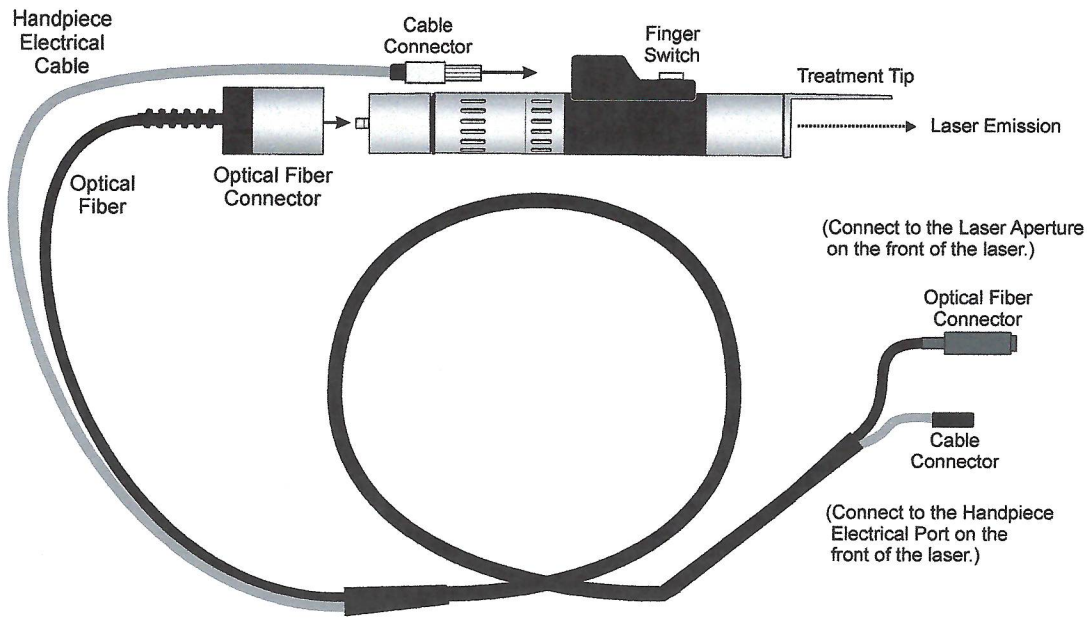

Figure 3—Handpiece
The Smartepil II laser comes with a set of interchangeable and reusable handpieces, which allow the user to vary the treatment spot size. See **Figure 3** for an overview of the handpiece. From the laser head, the treatment beam and aiming beam are coupled into the optical fiber. The optical fiber delivers the laser and aiming beams to the handpiece and then to the treatment area.
To change handpieces, disconnect the handpiece electrical cable by pulling the cable connector from the handpiece. Then carefully pull the optical fiber connector from the rear of the handpiece. See **Figure 3**. Connect the new handpiece, reversing the steps above. Periodically test the optical fiber and handpiece(s) to confirm the transmission efficiency.
- The **Finger Switch**, which is an electrical switch on the handpiece, see **Figure 3**.
The OPERATE switch enables the foot switch or finger switch after a brief delay (the red light near the OPERATE switch flashes during the delay). When the system is in Operate mode, the red light, as well as the System Ready Indicator, see Figure 3, are illuminated indicating that the laser is operational. Activate the laser beam with the foot switch or finger switch.
NOTE: Refer to **Figures 3 and 4** while performing the following step of this section.
4. Install the optical fiber assembly. Carefully pass the proximal end of the optical fiber assembly through the loop at the top of the pole. Remove the black cap and connect the proximal Optical Fiber Connector to the Laser Aperture on the front of the laser. Connect the Cable Connector to the Handpiece Electrical Port located on the front of the laser. Properly connect the distal end of the optical fiber assembly to the handpiece as shown in **Figure 3**.